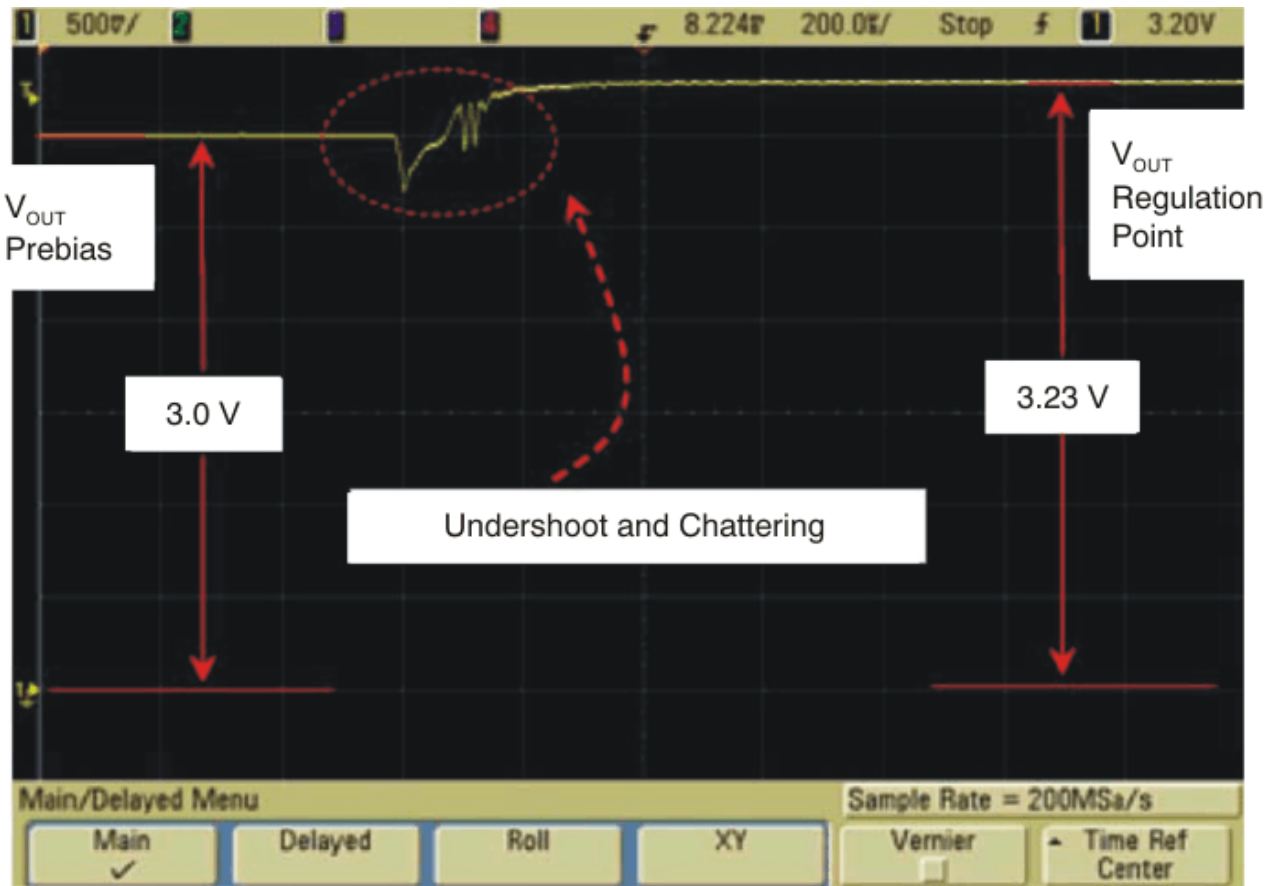

Figure 5. Case 2-2: Observed Undershoot and Chattering During V_{OUT} Turn-on with Pre-Bias Condition
- The chattering may become a severe ditch (that is, an undershoot) when higher degrees of violations are present, as shown in Figure 5.